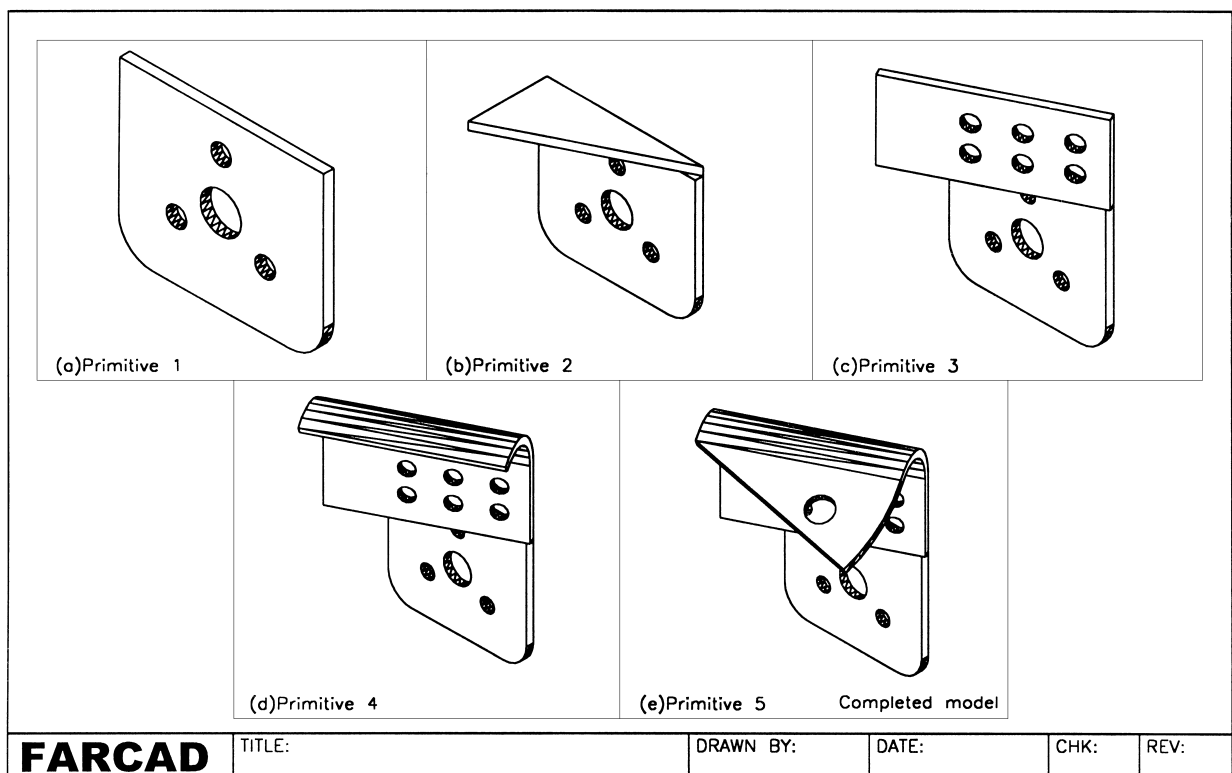

Figure 44.1 Construction of the computer link model.
- 2 Set ISOLINES to 6 and refer to Fig. 44.1